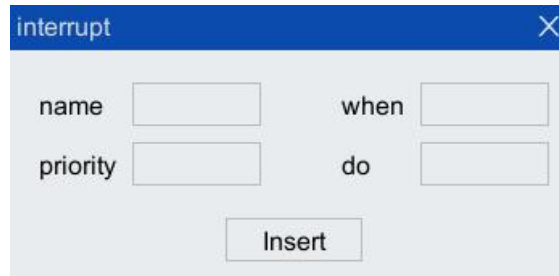

Figure 5-32 "Interrupt" instruction configuration interface
- Step1. Click "Insert Cmd> Interrupt Trigger> Interrupt" option in the toolbar of the program editor to pop up "interrupt" instruction interface, as shown in Figure 5-32.